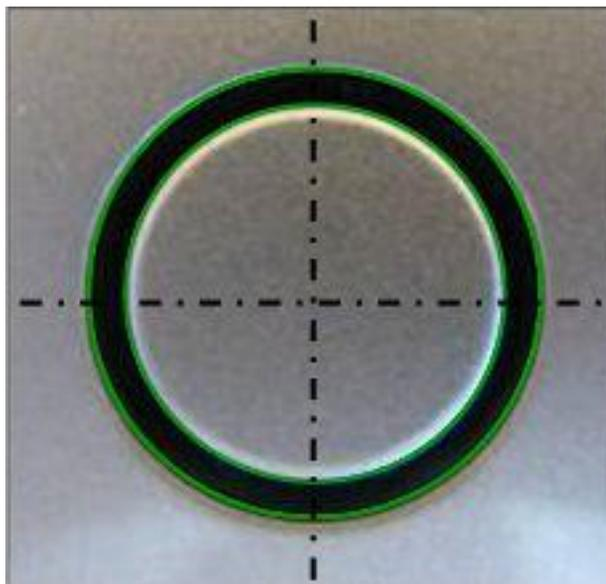

Figure 8. A correctly centered parking aid sensor.
8. Verify that the sensor is centered inside of the mounting hole (Figure 8 and Figure 9). If the sensor is mounted off-center, remove the bumper and reinstall the sensor.